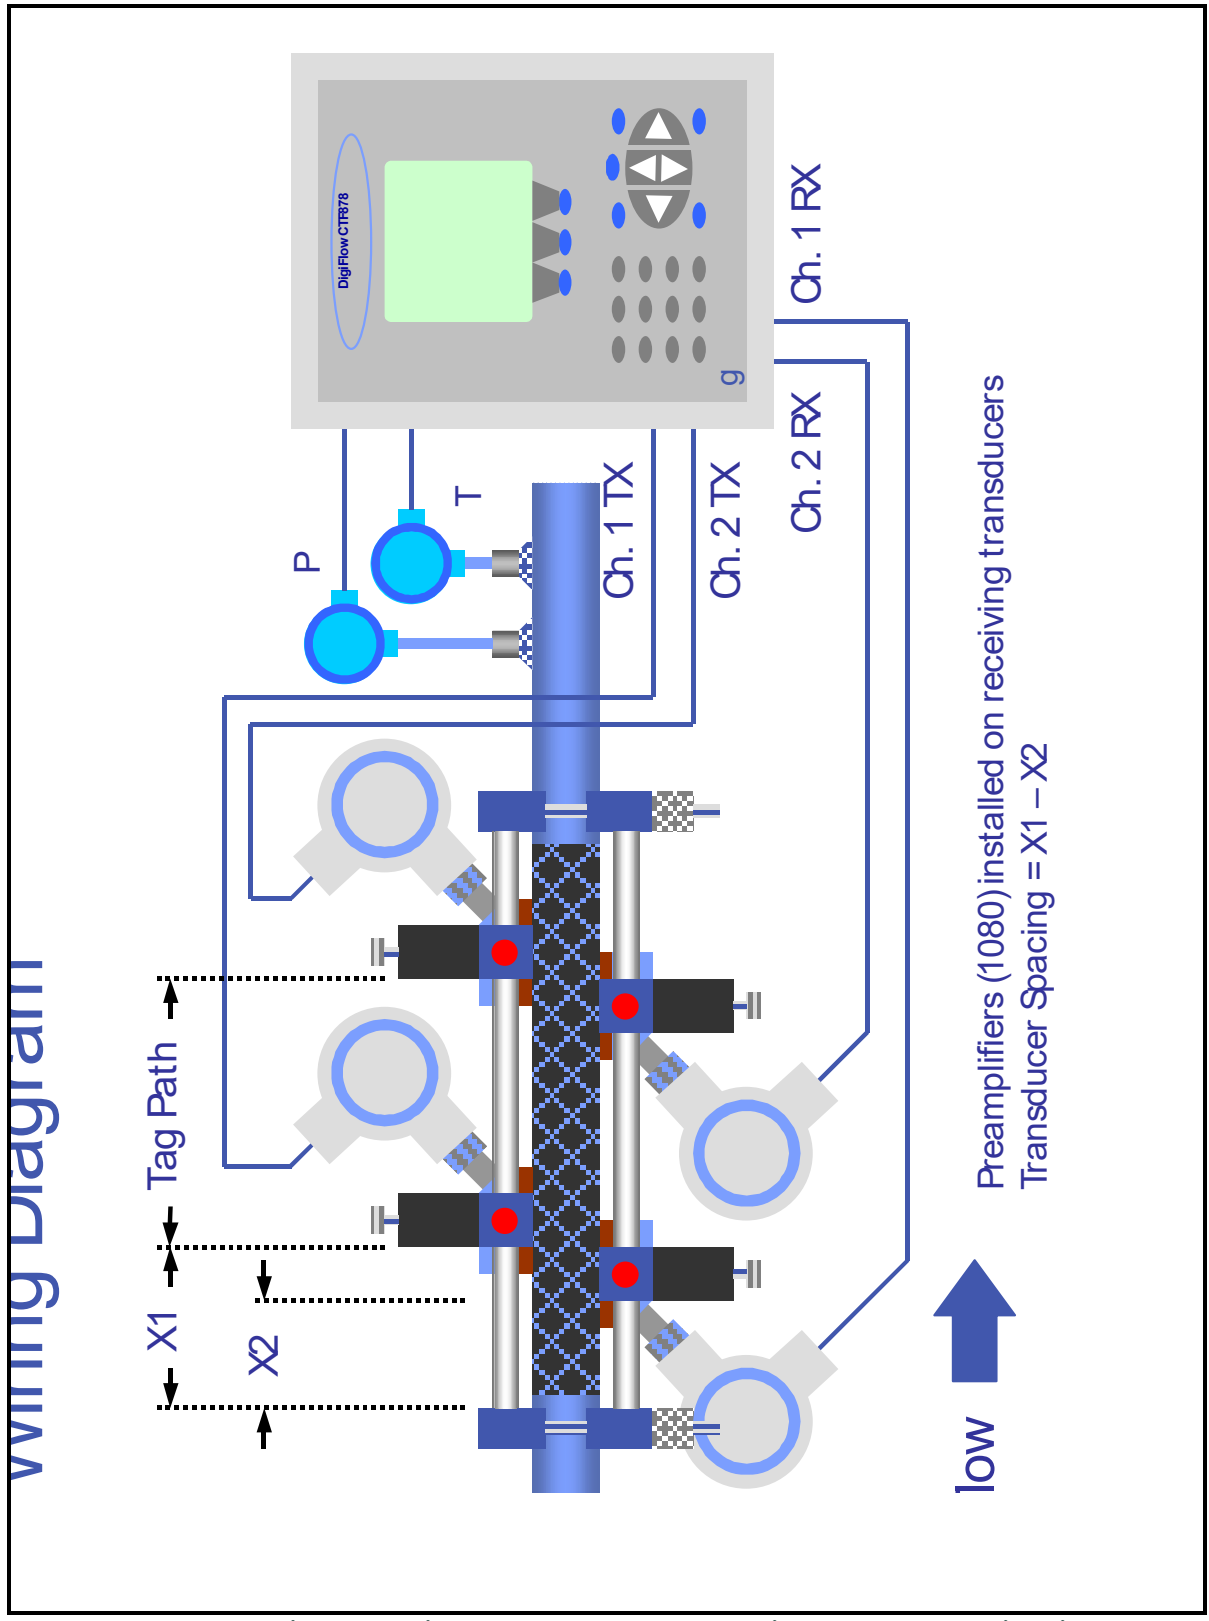

Figure 1: Typical CTF878 System Setup using a CFT-V Clamping Fixture
- **CLAMPING FIXTURE** - The clamping fixture provides mechanical support for the transducers and assures stable alignment for accurate measurement (see Table 1-1 below and Figure 1 on page 4).